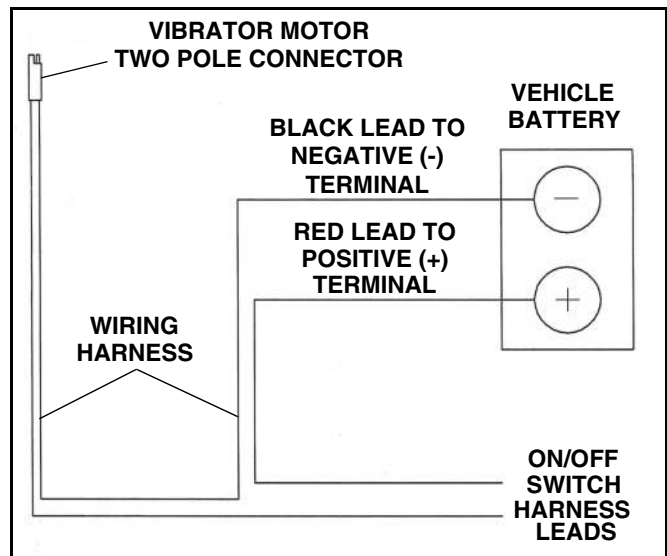

Figure 17
3. Position the front black harness lead close to the negative (-) battery terminal. Position the front red harness lead close to the positive (+) battery terminal (See Figure 17).